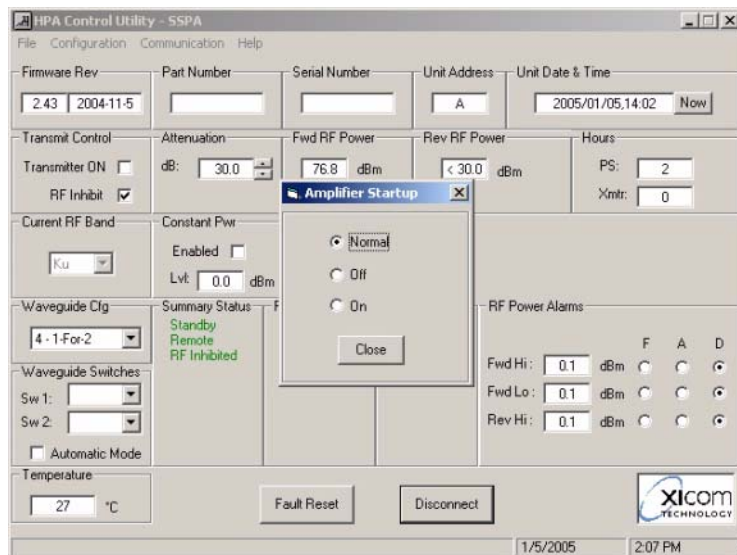

Figure 8, Amplifier Startup Configuration
6. Refer to Figure 8 on page 10. If the “Configuration -> Startup Configuration” option is selected, you are presented with a dialog allowing the selection of Normal / Off / On.